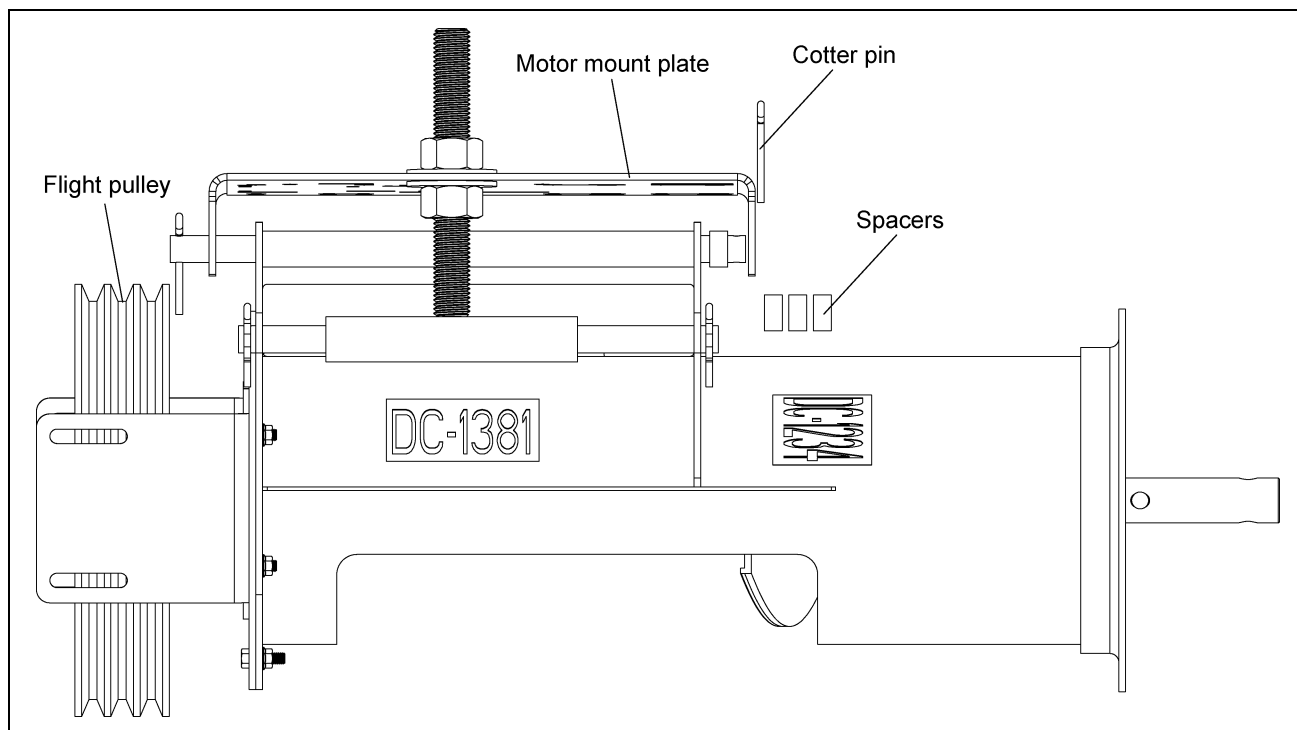

Figure 4L
2. Install pulley onto motor shaft making sure that it is aligned with the flight pulley. It may be necessary to move spacers to gain shaft alignment. (See Figure 4L.)